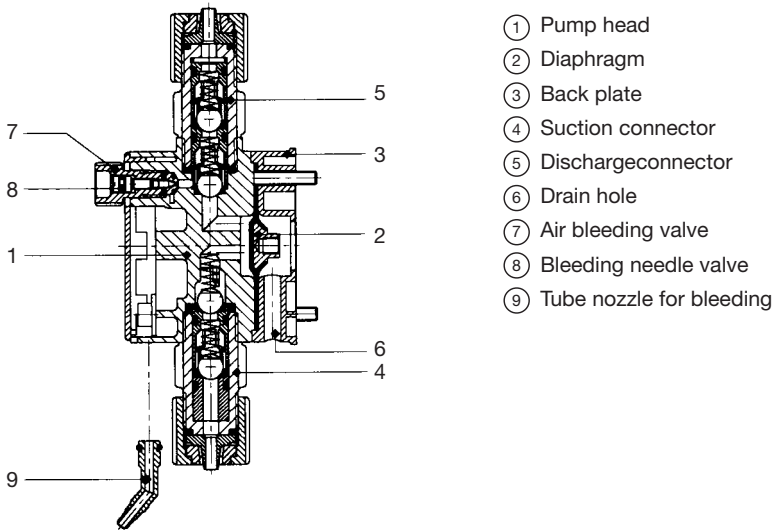

Fig. 9: Liquid end
- a) Bleed air from pump; for material version PP/NP loosen air bleeding valve (Fig.9) by giving it a turn, for other types release discharge line at the injection valve and wait until the pump head is filled with media.